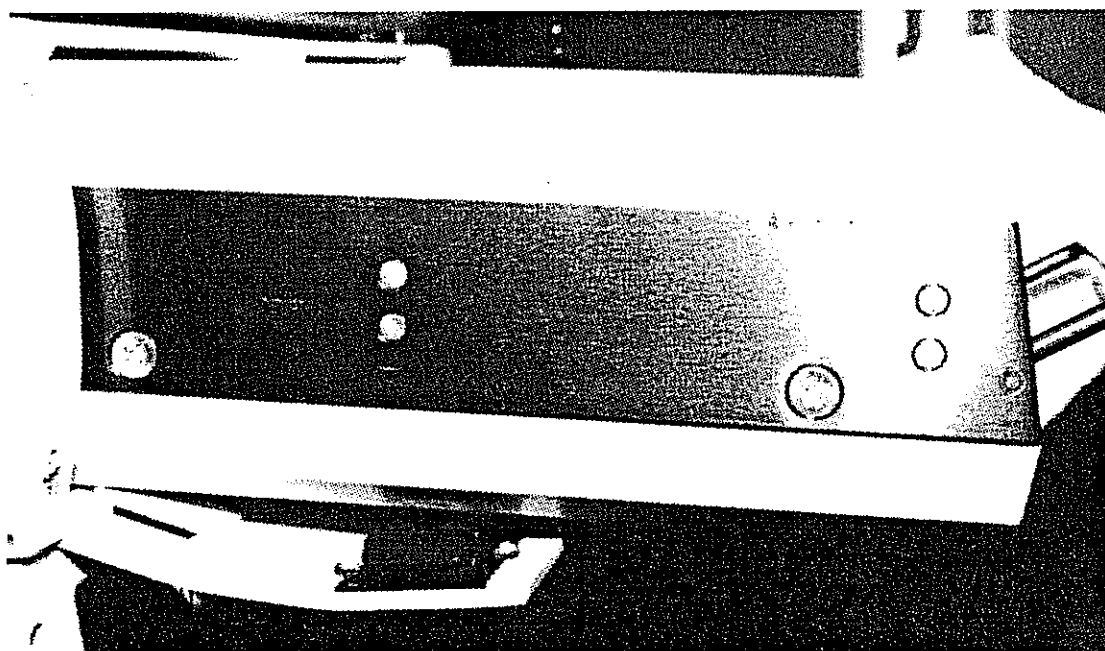

Figure 7-50. DR-1 DataShuttle Screws
2. Remove the DataShuttle cover by removing the top three screws on the rail and loosening the bottom three screws. A second person should support the drive while the first person loosens the bottom three screws. Refer to Figure 7-50.